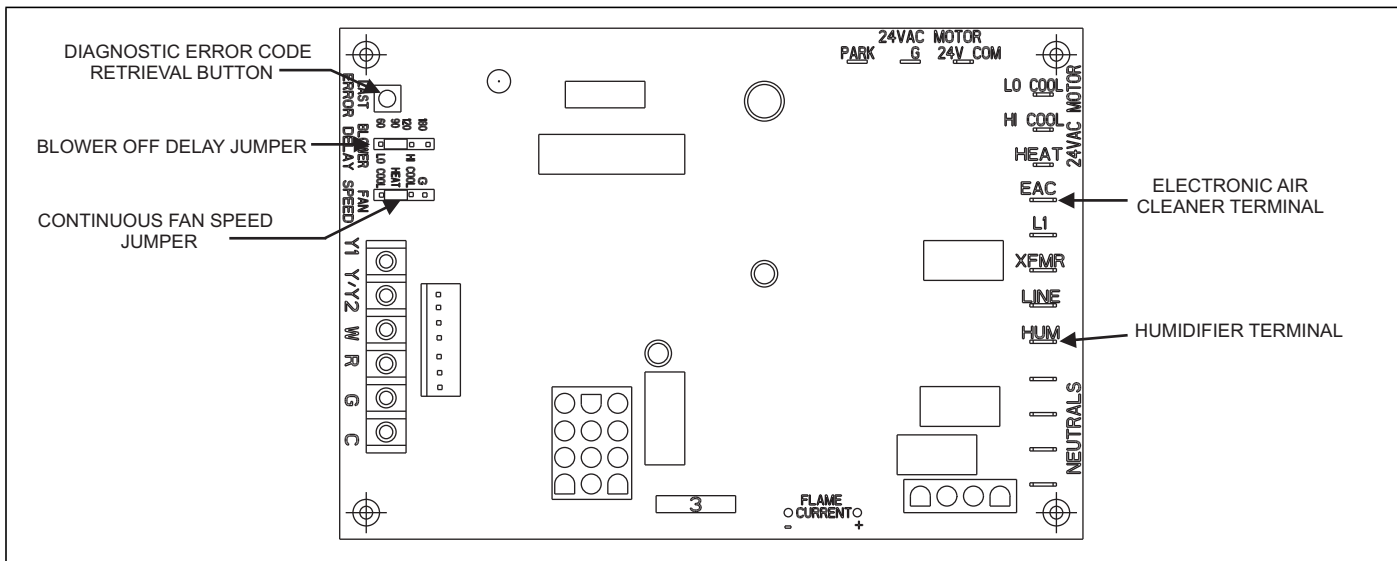

FIGURE 39: Furnace Control Board
This furnace has a standard ECM motor. The blower motor speed taps are located on the furnace control board in the blower compartment. Refer to Figure 39 and the unit wiring label to change the blower speed. Place all unused motor leads on the PARK terminal. One PARK terminal is provided. To use the same speed tap for heating and cooling, the terminals must be jumpered together. This control has a continuous fan speed jumper. On a fan call only (G), the control will energize which ever blower tap is selected by the jumper. This control will change blower speeds based on other 24V thermostat inputs (Y1, Y/Y2, W) respectively.
This furnace is equipped with a time-on/time-off heating fan control. The fan on delay is fixed at 30 seconds. The fan off delay has 4 settings (60, 90, 120 and 180 seconds). The fan off delay is factory set to 120 seconds. The fan-off setting must be long enough to adequately cool the furnace, but not so long that cold air is blown into the heated space. The fan-off timing may be adjusted by positioning the jumper on two of the four pins as shown in Figure 39.
When the thermostat switch is set on HEAT and the fan is set on AUTO, and there is a call for heat, a circuit is completed between terminals R and W of the thermostat. When the proper amount of combustion air is being provided, the pressure switch will close, the ignition control provides a 17-second ignitor warm-up period, the gas valve then opens, the gas starts to flow, ignition occurs and the flame sensor begins its sensing function. The blower motor will energize 30 seconds after the gas valve opens, if a flame is detected. Normal furnace operation will continue until the thermostat circuit between R and W is opened, which causes the ignition system and gas valve to de-energize and the burner flames to be extinguished. The vent motor will operate for 15 seconds and the blower motor will operate for the amount of time set by the fan-off delay jumper located on the control board. See Figure 39. The heating cycle is now complete, and ready for the start of the next heating cycle.